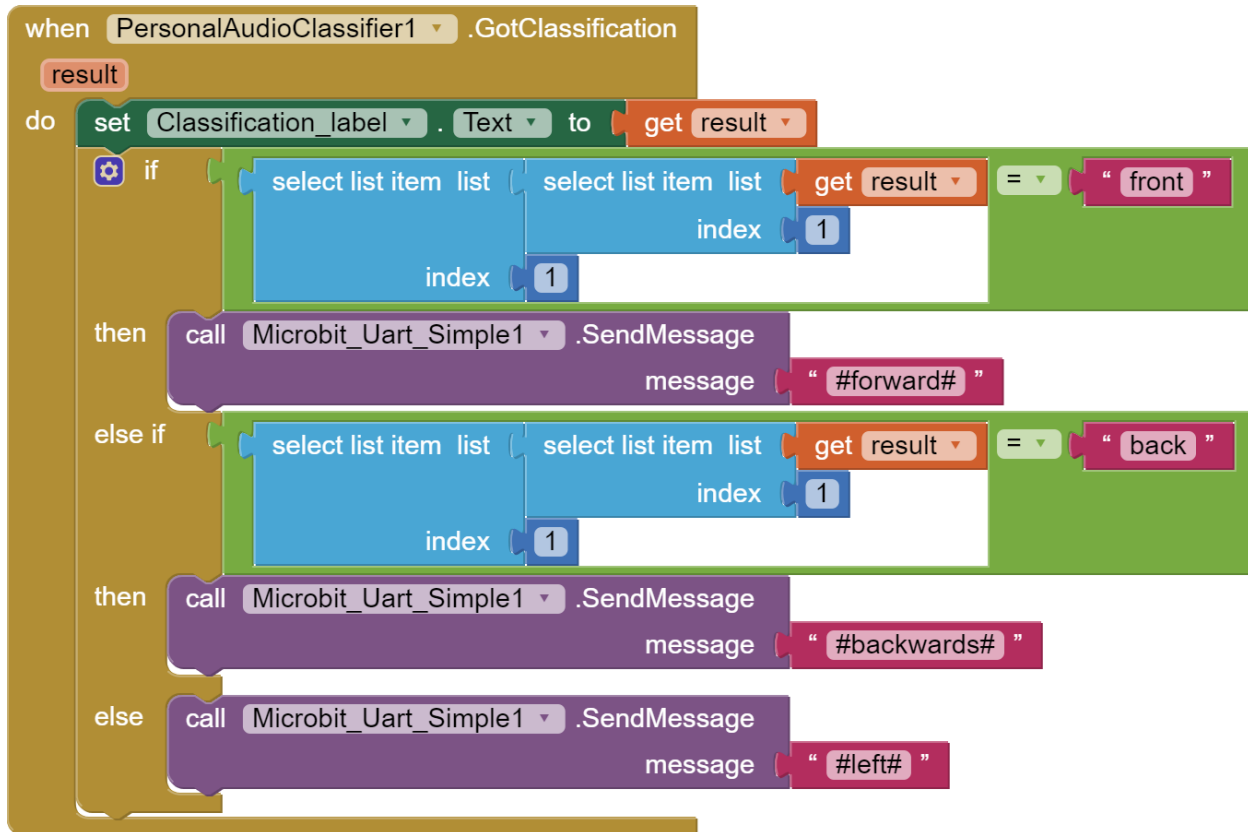

Figure 41: A script for programming Personal Audio Classifier when the trained model contained only two categories, such as front and back.
**Important note:** In some cases (especially if the trained model has too many labels/categories), when the trained model may not work properly when integrated into the application, leading to false results. If your students encounter such a problem, encourage them to experiment with a **smaller** trained model (with only 2 or 3 labels) and think of alternative scenarios where this AI service would be more useful (e.g. starting and stopping the car). In the case of a simpler trained model, the PersonalAudioClassifier script could look like the one shown in Figure 41.